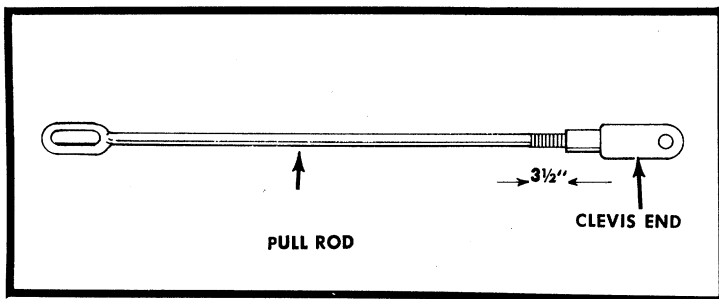

FIGURE 4. PULL RODS
- Step 1. Adjust the clevis end on both the right and left sides of the tractor so that 3-1/2 inches of threads show. See Figure 4.